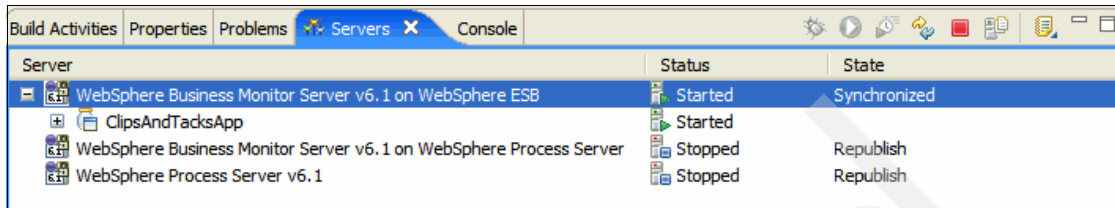

Figure 6-38 ClipsAndTacksApp started
3. After the ClipsAndTacksApp is successfully published (Figure 6-38), open the DB2 Command Line processor.